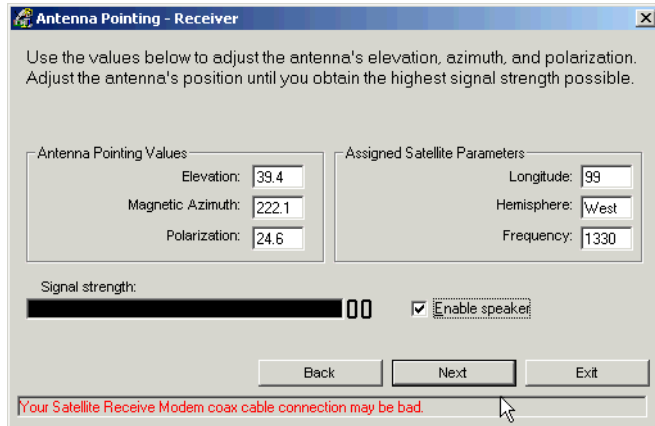

Figure 22: Antenna Pointing - Receiver
10. Verify that the ZIP code shown matches the ZIP code for the installation site. If not, correct it. Select **Next**. The Antenna Pointing - Receiver screen appears. See Figure 22. At this point it shows no signal strength or auto cross-pol checkbox.